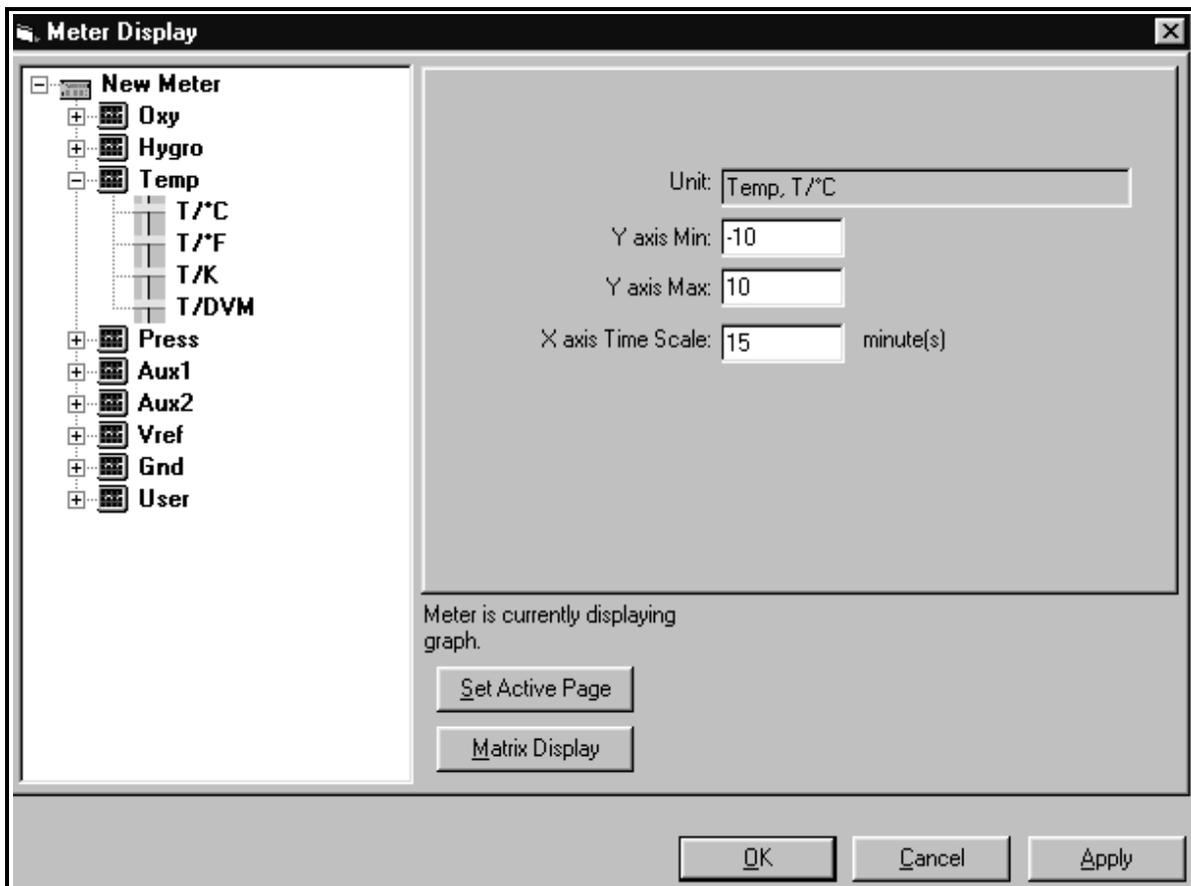

Figure 4-3: Graph Programming Window
3. Double-click on the desired unit, and enter the parameters for the graph, as shown in Figure 4-3 below.